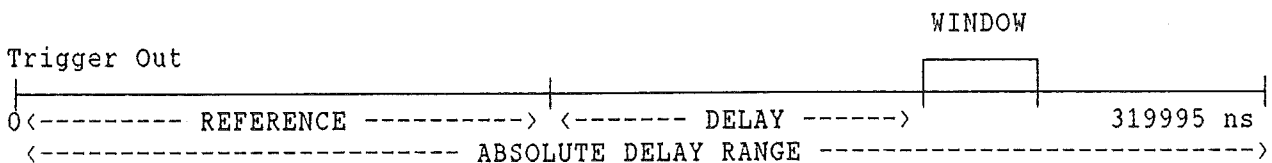

Figure 5-A
This is easiest understood by referring to Figure 5-A below. The delay generator runs at a set repetition rate. If the time of the Trigger Pulse out is taken as zero, then a reference value can be set to any point in time within the absolute delay range. The DELAY can be positive or negative but the REFERENCE plus DELAY must fall within the ABSOLUTE DELAY RANGE. The Delay is measured from the REFERENCE point to the left side of the WINDOW. The WINDOW size is determined from the Delay Generator T/DIV value, (WINDOW size = 10 x T/DIV). Again, REFERENCE plus DELAY plus WINDOW size cannot extend beyond the ABSOLUTE DELAY RANGE. An attempt to do so will cause the error indicator, (E), to light. Press CLR and re-enter. The WINDOW position, (DELAY), can be moved by direct entry or stepped by the Delay Generator STP size value. When FN-REF-ENTER is pressed, the current DELAY is added to the current REFERENCE to give a new REFERENCE and a DELAY equal to zero while the WINDOW position remains unaltered in the ABSOLUTE DELAY RANGE.